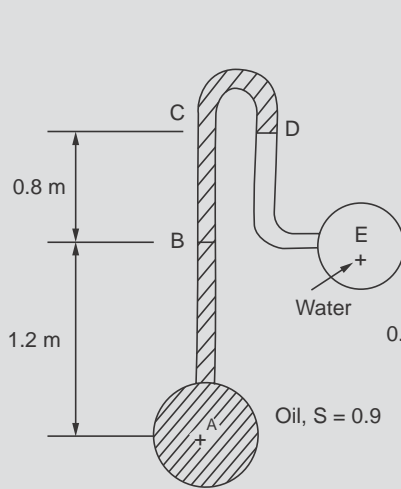

Figure Ex. 2.7
**Example 2.7.** An inverted U-tube manometer is fitted between two pipes as shown in Fig.Ex.2.7. Determine the pressure at E if  $P_A = 0.4$  bar (gauge)